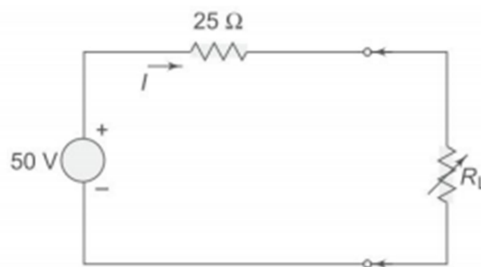

Figure 19
**Example** In the circuit shown in Fig. 19, determine the value of load resistance when the load resistance draws maximum power. Also find the value of the maximum power
**Solution** In Fig. 19, the source delivers the maximum power when load resistance is equal to the source resistance.